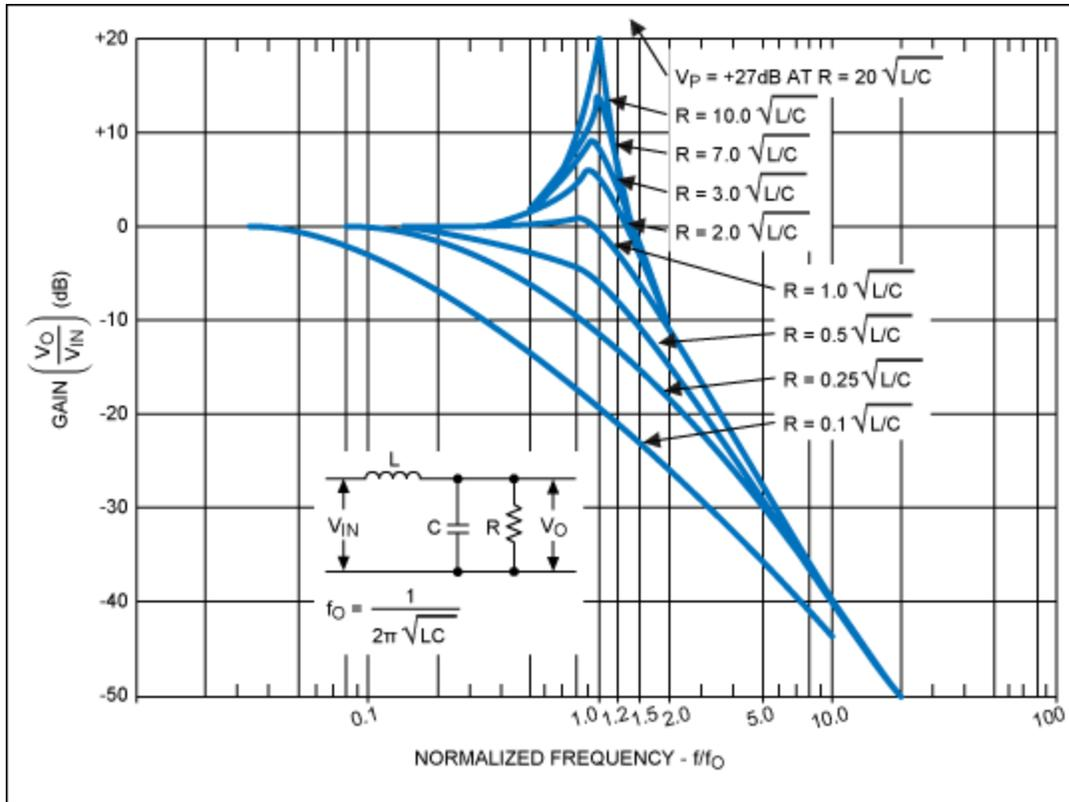

Figure 4a. LC filter amplitude characteristic for various damping ratios.
2. **An LC Filter.** The problem with using this type of filter is the lack of inherent damping at the output of the network (input of the regulator). The source impedance of the network is low. However, the regulator's  $V_{IN}$  terminal presents a high impedance shunted with a small capacitor. (When the regulator is operated away from dropout with a constant load, its input current does not vary, to first order, when  $V_{IN}$  is varied.) It is impossible to critically damp the LC network at the input of the regulator without significant DC loss in the shunt-damping resistor. For example, a series  $10\mu H$  inductor, combined with a shunt  $100\mu F$  capacitor, exhibits a turnover frequency of  $5kHz$ . This combination requires a critical damping resistor of  $0.32\Omega$  between network output (regulator input) and ground. **Figure 4a** illustrates the problem.